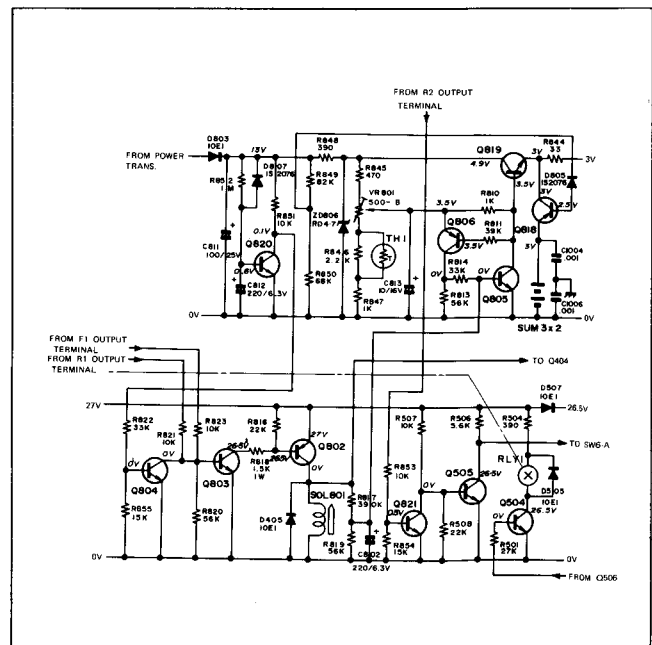

Figure 28
■ **OUTPUT PROTECTOR CIRCUIT (See Figure 28)**